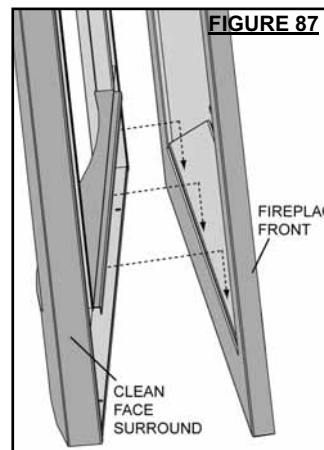
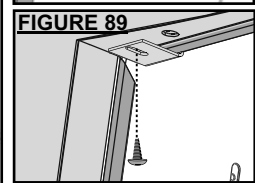

FIGURE 87
FIGURE 89
3. First secure the clean face surround to the fireplace front by hooking the ledge that runs horizontally on the rear surface of the clean face surround over the bottom edge of the fireplace front opening. (FIGURE 87)
4. With the clean face surround against the fireplace front, hook the surround clips in behind the top lip of the fireplace front opening (FIGURE 87) and secure using the screws provided through the slot in the surround clip and into the pre-drilled hole in the clean face surround. (FIGURE 89) If the optional clean face trim kit was installed, the surround clip fits into the cut out and is secured in the same fashion. (FIGURE 90)
Combustible mantle clearance can vary according to the mantle depth. Figure 89. Use the graph to help evaluate the clearance needed. These same requirements apply to any combustibles protruding on either side of the fireplace.